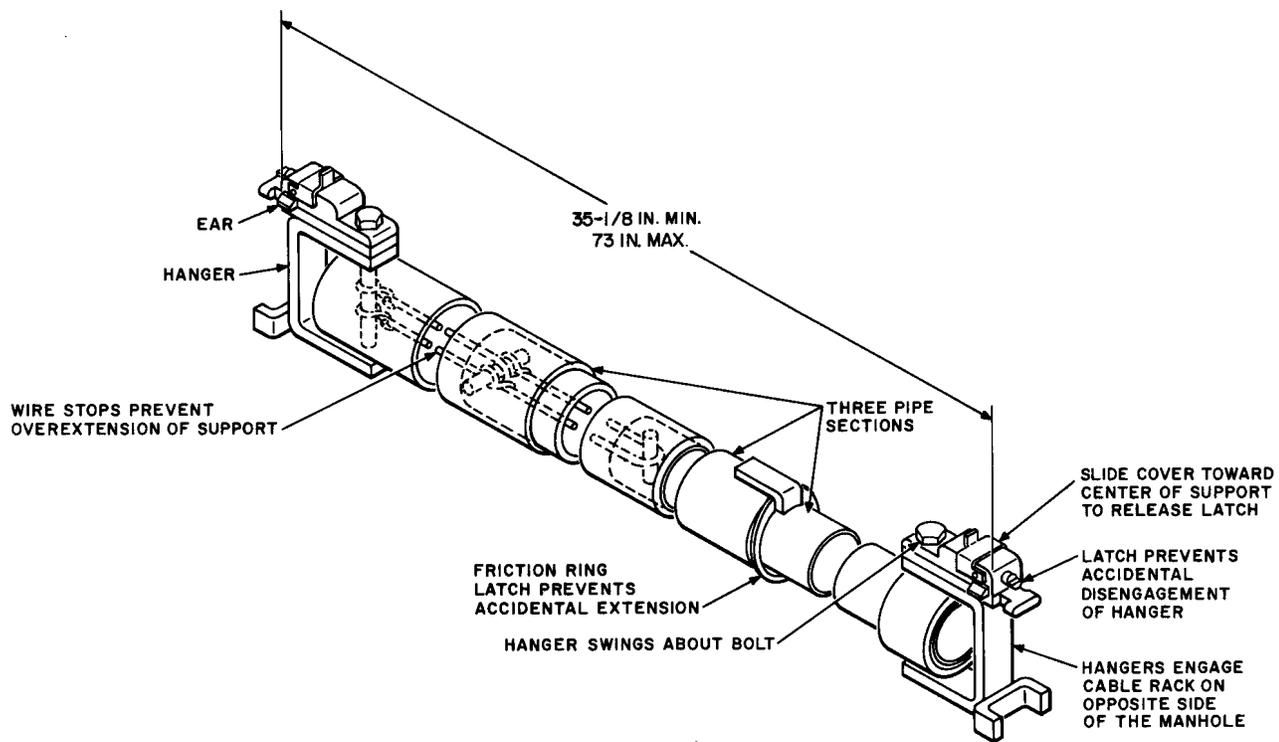

Fig. 1—D Manhole Platform Support
2.01 ♦The D Manhole Platform Support (Fig. 1) consists of three telescoping lengths of pipe connecting two hangers for engaging the cable racks on opposite sides of a manhole. The intermediate pipe section carries a friction ring latch which engages the surface of the inner pipe to prevent accidental extension of these pipes during handling. Two wire stops extending through the pipes prevent overextension of the telescoping sections. A spring safety latch is provided on each end for locking the support in place when in use.